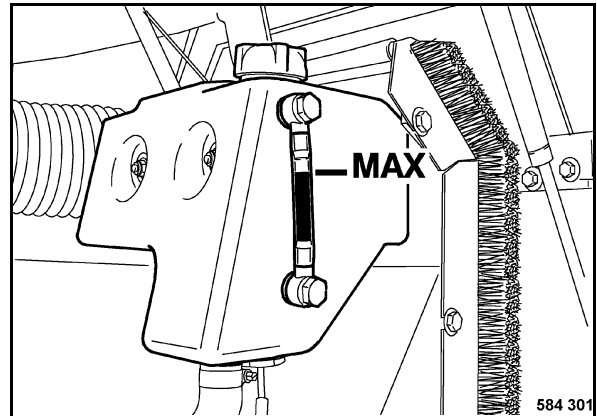

Fig. 179
- Fill in coolant (Fig. 179) up to the MAX-mark and screw the filler cap back on.